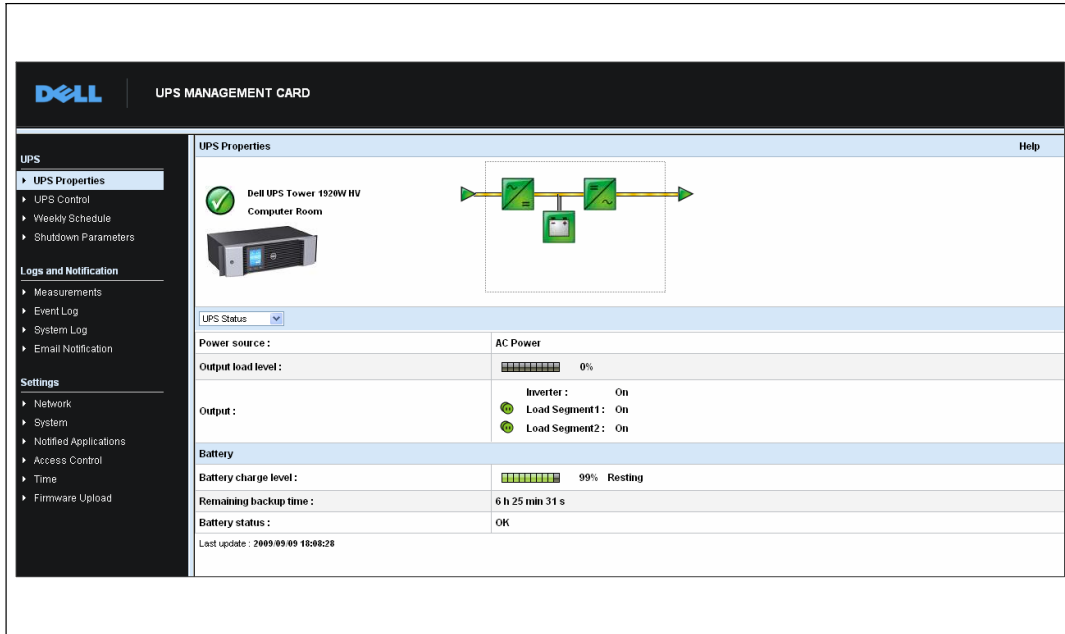

Figure 12. Home Page
- 2 Enter the card's **https://IP address** (IPv4 or IPv6) in the address bar. The home page displays (see Figure 12).